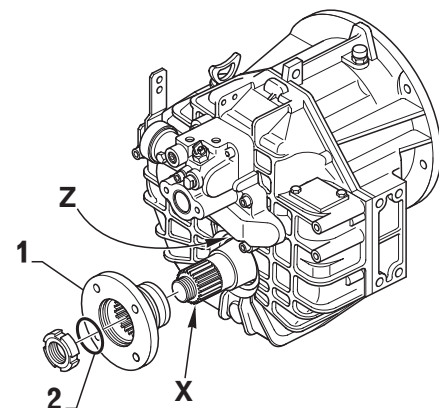

FIG. 8-1a
Provide spline (X) of output shaft with a thin coat of Loctite 245 and sealing lip (Z) of shaft seal with a thin coat of ATF fluid. (Fig. 8-1a and b)
Tighten output flange down on output shaft with nut ring (item 3, Fig. 8-1a).